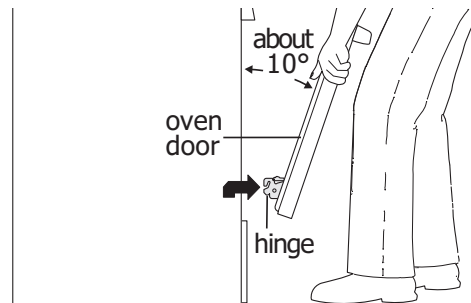
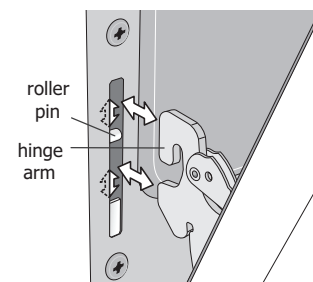

Figure 7: Holding door for removal
Figure 8: Replacement and location of hinge arm and roller pin
3. Firmly grasp both sides of oven door along the door sides. Do not use the oven door handle (See Figure 7).
4. Close the door to approximately 10 degrees from the door frame (See Figure 7).
5. Lift the oven door hinge arms over the roller pins located on each side of the oven frame (See Figure 8).
1. Firmly grasp both sides of oven door along the door sides. Do not use the oven door handle (See Figure 7).
2. Holding the oven door at the same angle as the removal position, seat the hook of the hinge arm over the roller pins located on each side of the oven door frame (See Figure 7 and Figure 8). The hook of the hinge arms must be fully seated onto the roller pins.